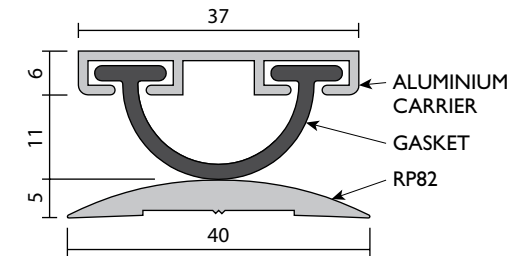

FIG.3
STEP 4 Using the centre line of the door bottom, position aluminium carrier. Drive screws in firmly but do not over tighten. (FIG.3)